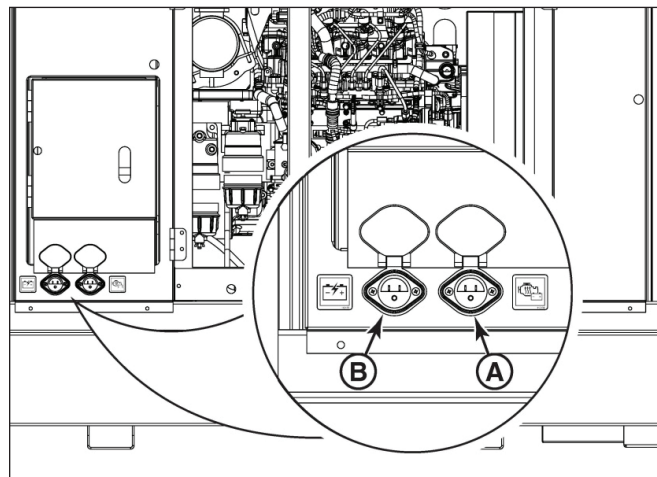

Figure B2
1. Plug the female end of a heavy-duty power cord (not supplied) into the Block Heater / Battery Heater recessed receptacle (A, Figure B2).
1. Plug the female end of a heavy-duty power cord (not supplied) into the Battery Charger recessed receptacle (B, Figure B2).